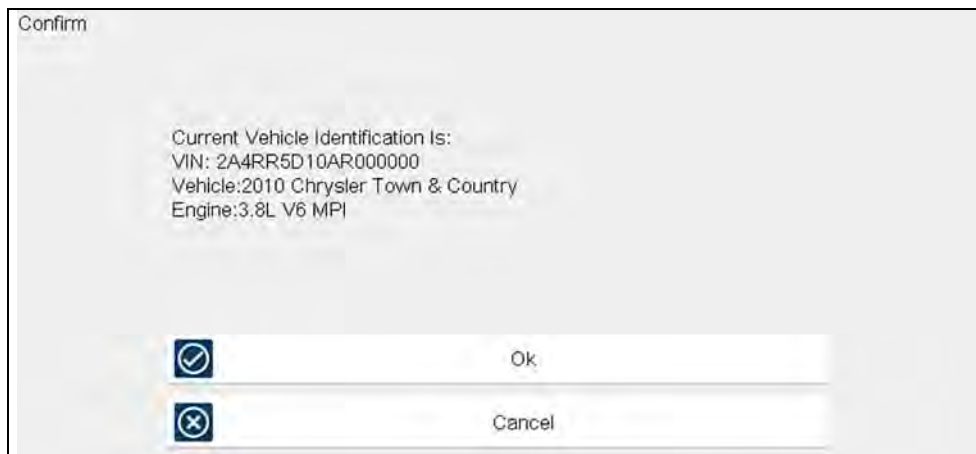

Figure 5-3 Vehicle confirmation screen
- a. Instant ID may occur, as indicated by an audible "beep" approximately 6 seconds after boot-up. Select the **Scanner** icon, then wait for the vehicle confirmation screen (Figure 5-3) and select **OK** to continue. Then proceed to **step 6**. See Instant ID on page 16, for additional information about this function.
b2.) Once the vehicle has been identified, the vehicle confirmation screen displays (*Figure 5-3*). If the vehicle information is correct, select **OK** to continue, then proceed to step 6.